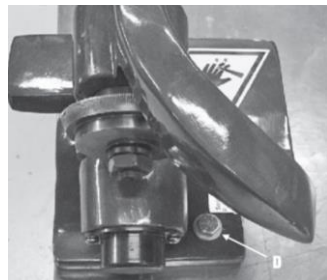

Fig. 1
2. Secure in place by with 2 suitable screws or bolt (not included) placed through the two holes in the base (D) (Fig. 1).